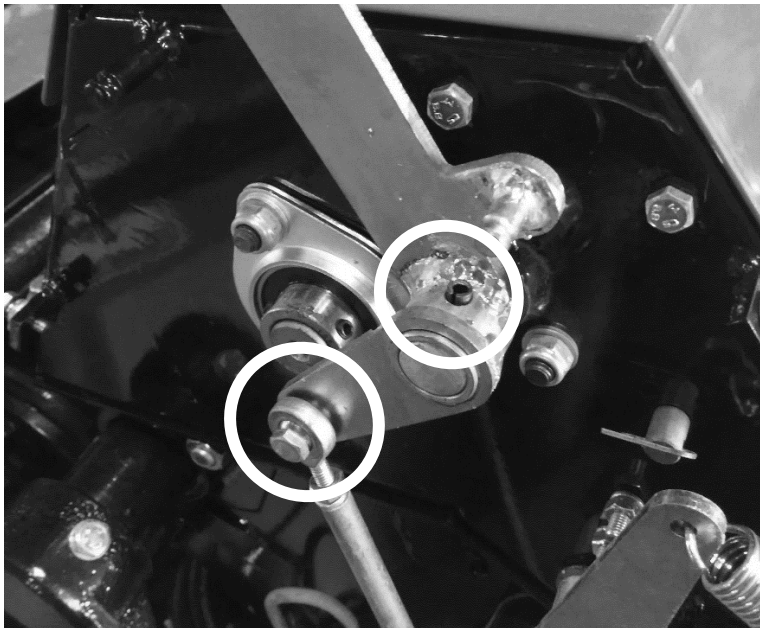

Figure 5
- The baler is shipped without the net wrap feeding lever installed, to avoid damage during shipping. Remove the small red guard on the upper part of the machine, on the right side (left and right are as if the baler is attached to the tractor, and the operator is sitting on the tractor facing forward). Install the lever as shown in the image below using the roll pin. Then attach the eye of the lift rod to the outside face of the lever using the screw, as shown in Figure 5.